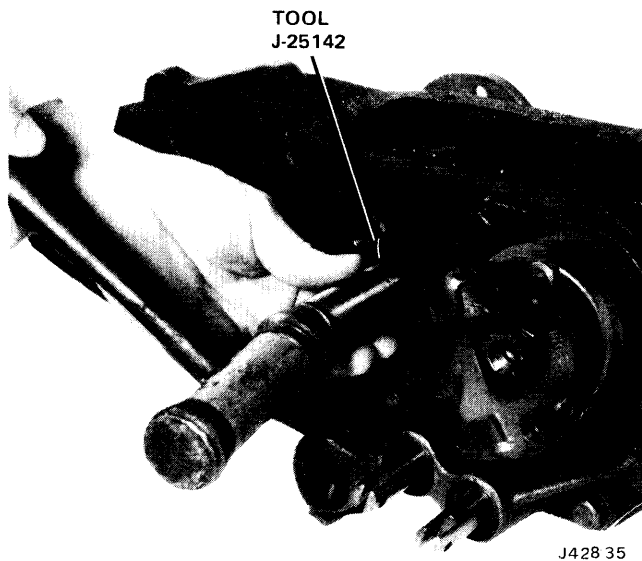

Fig. 8-12 Intermediate Shaft Removal
(4) Remove intermediate shaft lock plate.
(5) Using Arbor Tool J-25142 and plastic mallet, drive intermediate shaft out rear of case (fig. 8-12).
(6) Align Arbor Tool J-25142 in intermediate gear assembly and remove gear assembly and thrust washers.
(7) Remove front output shaft nut and washer.